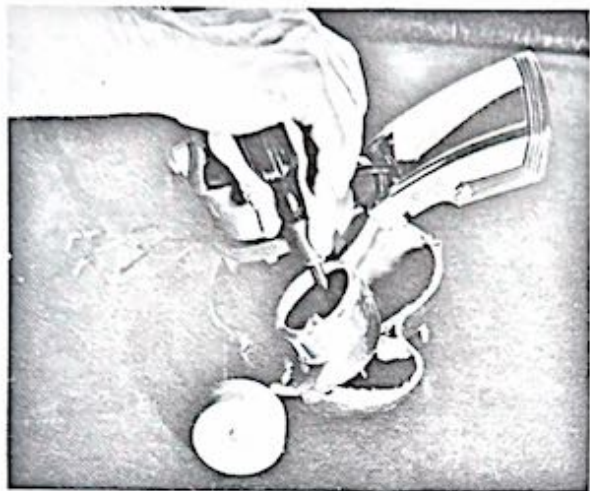

Figure 1-45. Separating fan housing from the motor housing.
e. Separate the fan housing from the motor housing by inserting a blunt instrument, such as a screwdriver, through the rear opening and giving it a sharp rap with your hand as shown in figure 1-45 to break the adhesive seal.